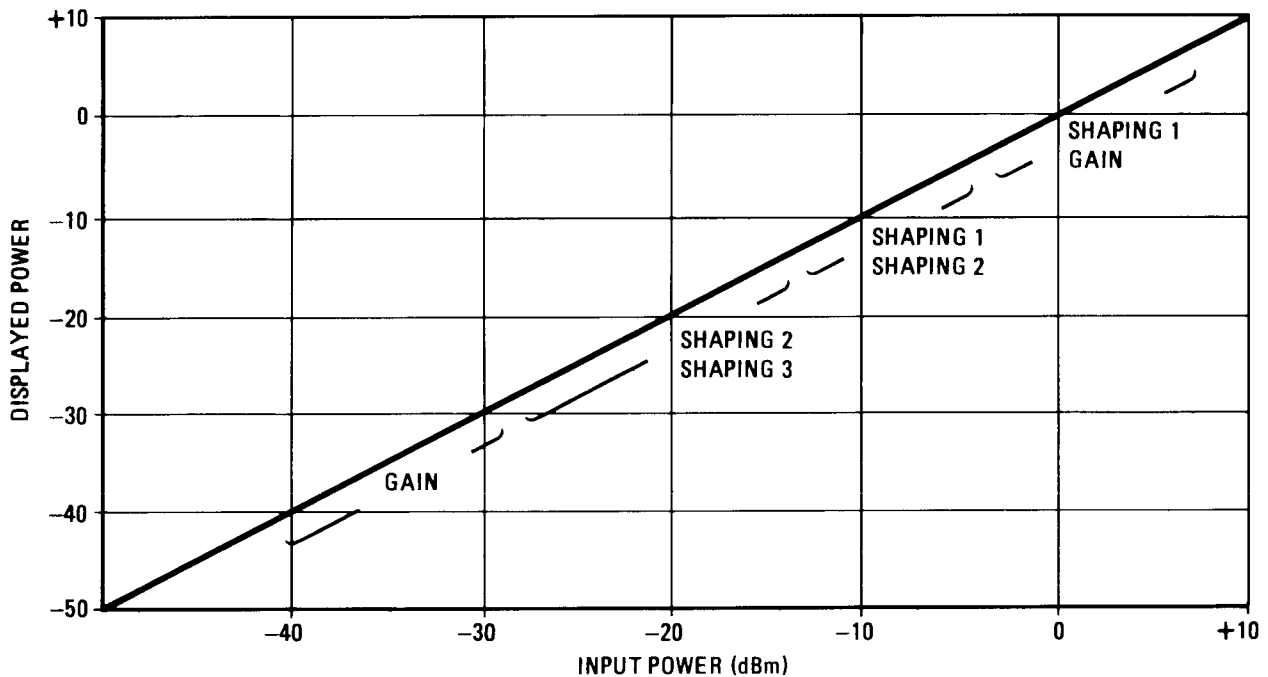

Figure 5-3. Graph for Log Amplifier Adjustment
- k. Adjust the appropriate log amplifier internal GAIN and SHAPING controls to obtain the desired amplitude response. A response curve is shown in Figure 5-3 and Table 5-2 shows the adjustments. These are included as an aid in making these adjustments. Course adjustments should be made first and then finer adjustments made until the amplitude response is within ± 0.4 dB (\pm the tolerance of the calibrated attenuators) over the 11664A/B detector input range of +10 dBm to -50 dBm.